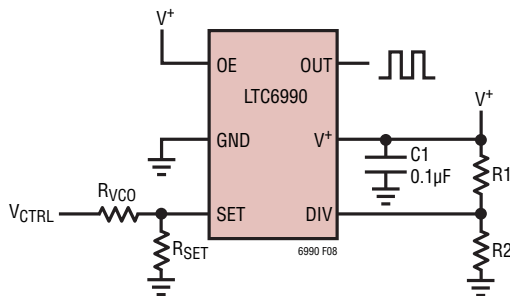
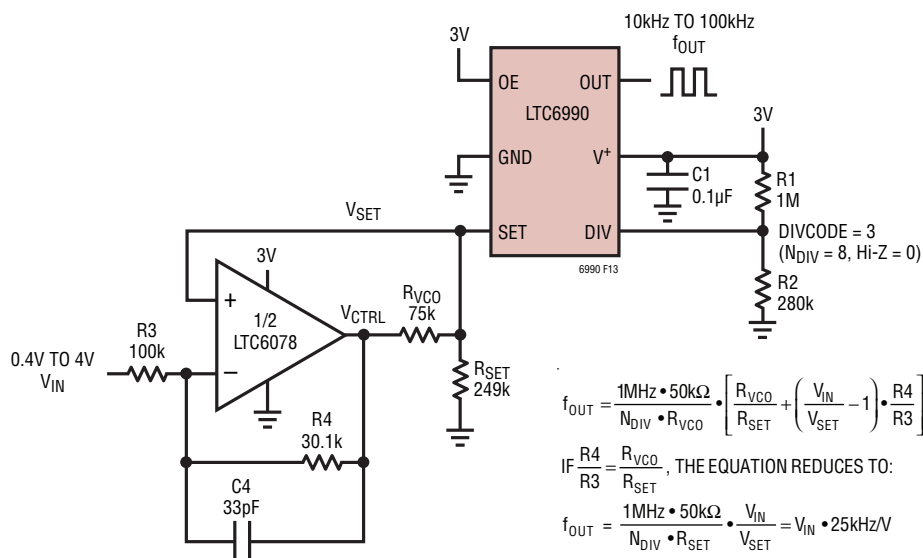

Figure 11. Voltage Controlled Oscillator
Figure 13. VCO with Reduced  $\Delta V_{SET}$  Sensitivity
Operating the LTC6990 as a voltage-controlled oscillator in its simplest form is achieved with one additional resistor. As shown in Figure 11, voltage  $V_{CTRL}$  sources/sinks a current through  $R_{VCO}$  to vary the  $I_{SET}$  current, which in turn modulates the output frequency as described in Equation (2).
For wide frequency range applications, the non-inverting VCO circuit shown in Figure 13 is preferred because the maximum frequency error occurs when the frequency is highest, keeping the relative error (in percent) much smaller.
Depending on the application's requirements, the non-inverting VCO circuit in Figure 13 may be preferred for this wide of a frequency variation as its maximum inaccuracy due to  $V_{SET}$  error is only  $\pm 9\%$  and can be reduced to only  $\pm 3\%$  with a small change to the voltage tuning range specification.
Figure 13 shows a VCO that reduces the effect of  $\Delta V_{SET}$  by adding an op-amp to make  $V_{CTRL}$  dependent on  $V_{SET}$ . This circuit also has a positive transfer function (the output frequency increases as  $V_{IN}$  increases). Furthermore, for positive  $V_{IN}$  voltages, this circuit places the greatest absolute frequency error at the highest output frequency. Compared to the simple VCO circuit of Figure 11, the absolute frequency error is unchanged. However, with the maximum absolute frequency error (in Hertz) now occurring at the highest output frequency, the relative frequency error (in percent) is greatly improved.
Figure 13 shows a design similar to the previous design example where the  $V_{MIN}$  voltage is now specified to be 0.4V. This satisfies the  $V_{MAX}/V_{MIN} \geq f_{MAX}/f_{MIN}$  condition and the design assures that the output frequency error due to  $V_{SET}$  variation is only  $\pm 3\%$ .